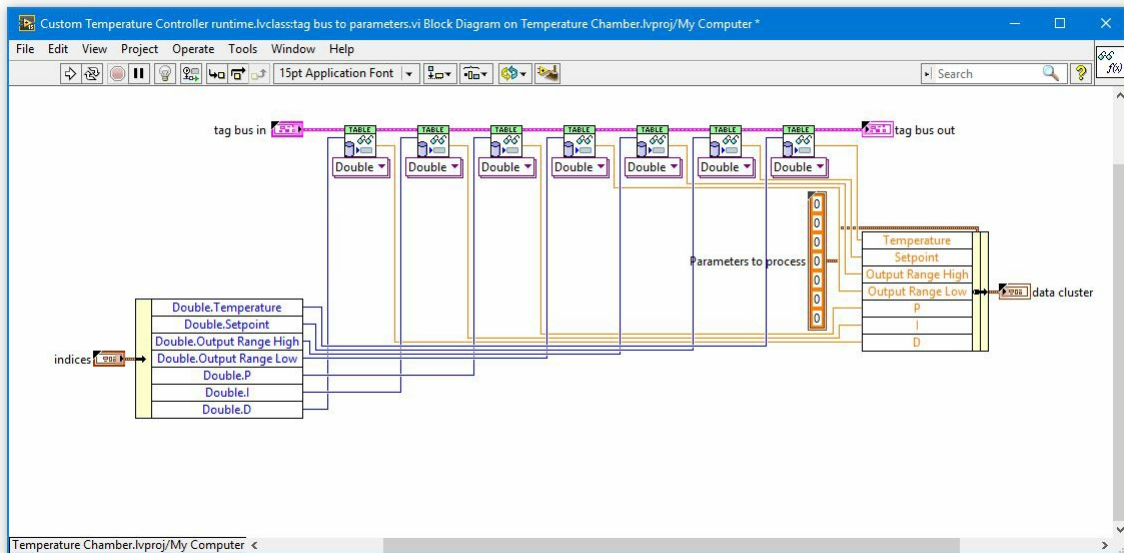

Figure 1.9
14. Drag the runtime class from the project over the runtime class path control or browse for it manually, then repeat for the configuration class (YourModuleName Configuration.lvclass). Because you used the script, you can leave most options as the default and press Run, and it should look like Figure 1.9
16. Navigate to **Custom Controller Module runtime.lvclass**, open **user process.vi** and implement the same PID control as shown in the Figure 1.9
- The result should look something like Figure 1.9.